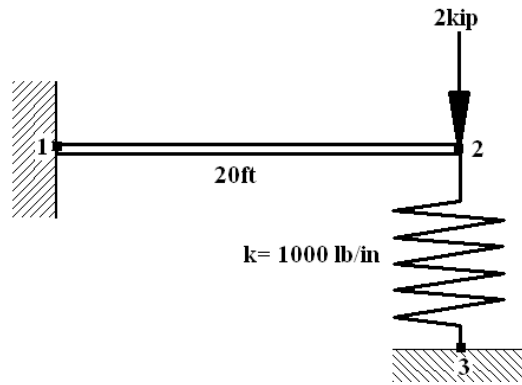

Figure 3
- 2A.** For the beams shown in Figure 3, determine the displacements and the (05)